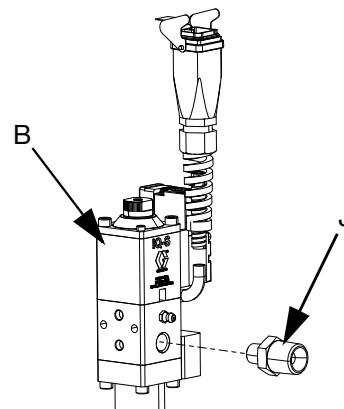

FIG. 27
- 8. Connect the Swivel to Valve Fitting (J) to the Dispense Valve (B) as shown in FIG. 27.